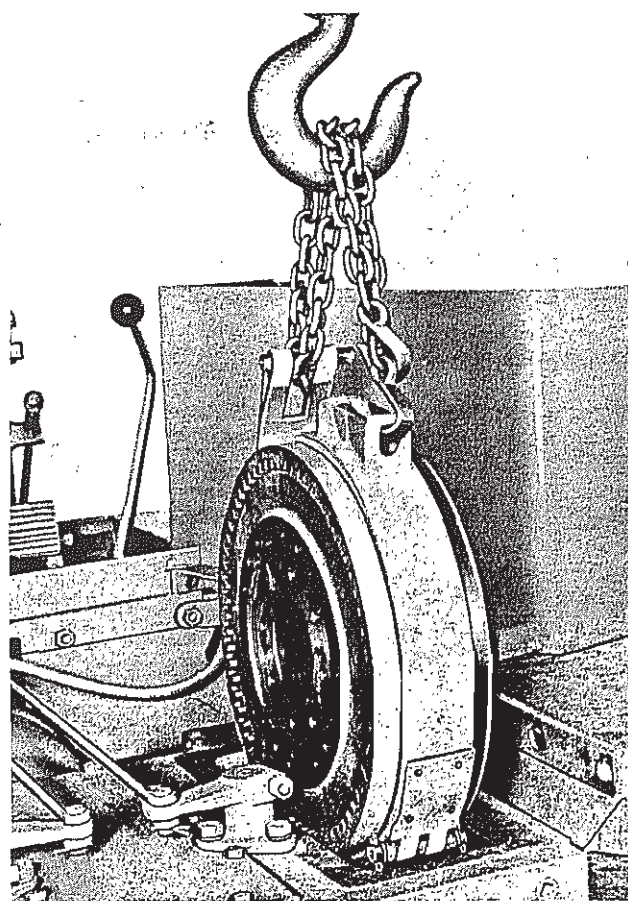

Fig. 9 -- Removing Steering Clutch
7. Attach chain to brake band, as shown in Fig. 9, and lift clutch and brake drum assembly from steering clutch compartment.